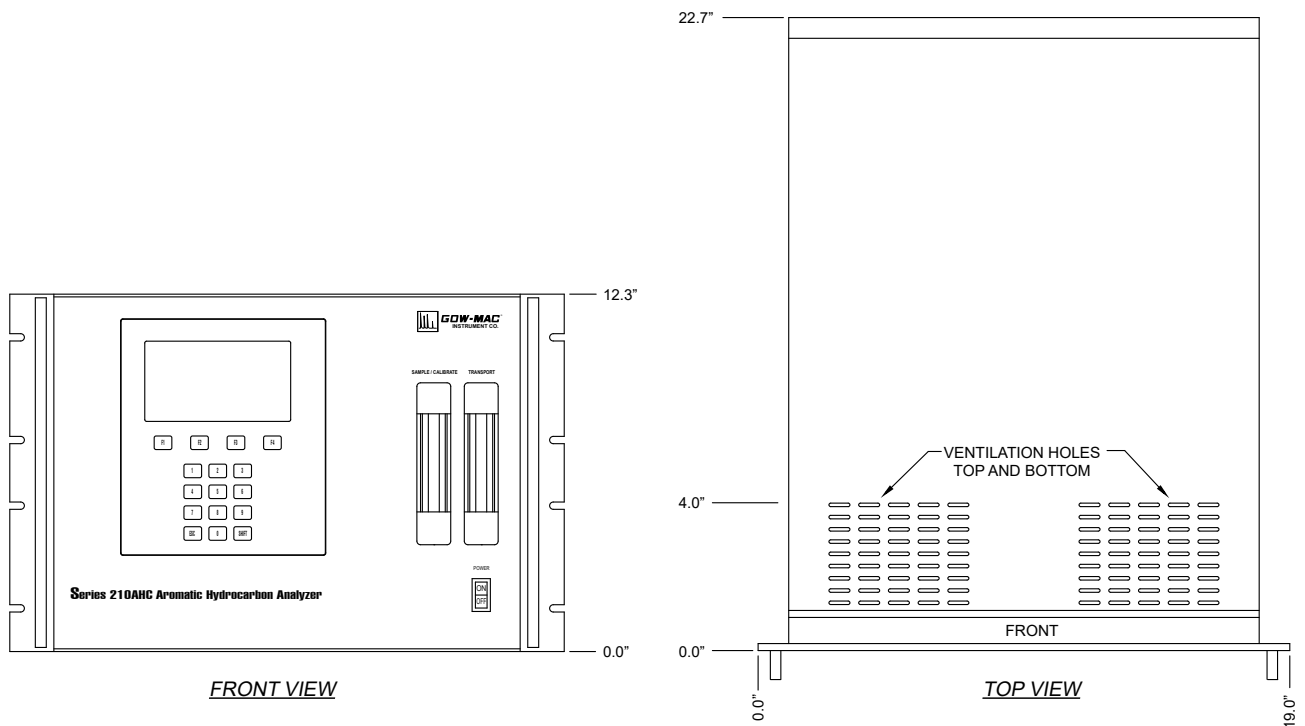

Figure 4-1
- B. There must be full access and easy viewing of the front panel of the analyzer. In addition, provisions should be made for access to the rear panel (gas, electrical and software interfaces), and for removal of the top panel for maintenance activities described in Chapter 7. The instrument dimensions are shown in Figure 4-1.